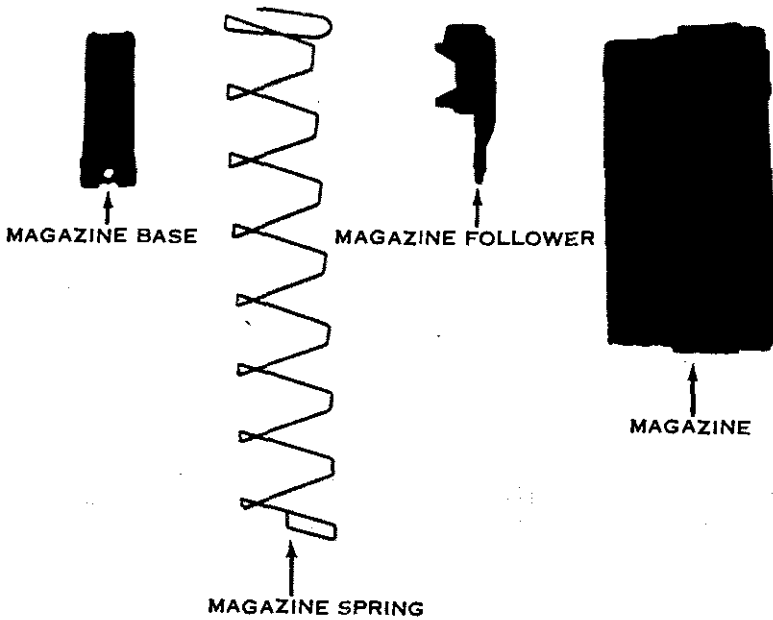

Figure 30. Parts of the magazine.
b. Remove the magazine spring and the magazine follower and separate them. Figure 30 shows the parts of a magazine.